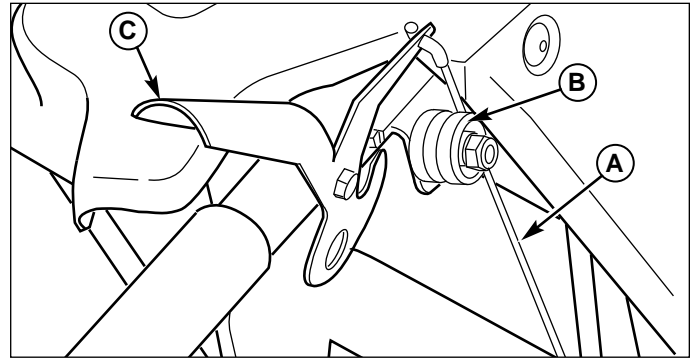

Figure 3. Auger Cable Button
1. Check that the auger cable (A, Figure 3) is on top of cable button (B) as shown in Figure 3.